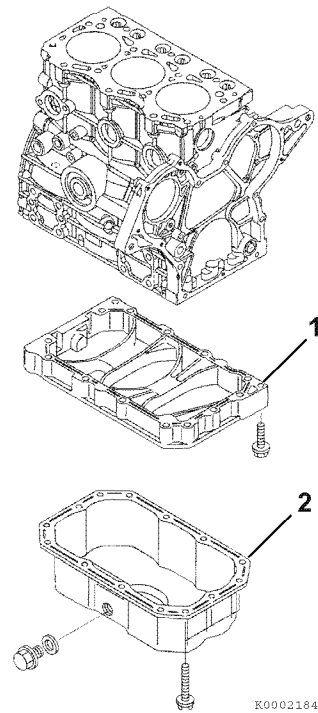

Figure 6-103
2. Apply a continuous bead of ThreeBond Liquid Gasket No. 1212F, YANMAR Part No. 977770-1212F to the mounting surface of the oil pan (**Figure 6-103, (2)**) and crankcase extension (if equipped) (**Figure 6-103, (1)**). Be sure to circle each bolt hole.
3. If equipped, reinstall the crankcase extension (**Figure 6-103, (1)**). Reinstall the oil pan and tighten the bolts securely.